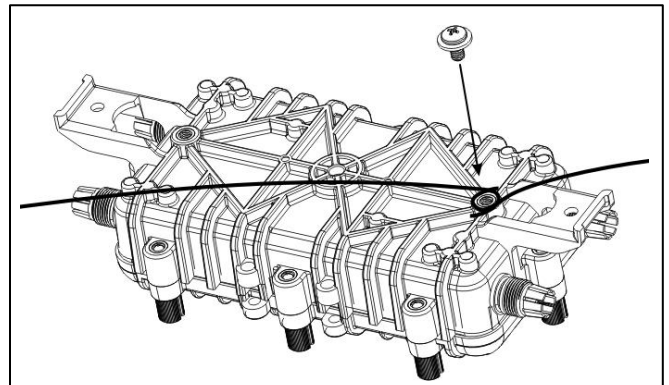

Figure 10. Trace wire attachment
- ① Loosen the screw for the trace wire located on the bottom side of the LOC-DROP enclosure.
- ② Cut the trace wire to length so that it reaches the screw + 2 inches. Strip the insulation so that approximately 0.75 inches of copper is exposed. Loop the wire around the screw as shown in Figure 10.
- ③ Tighten the screw.